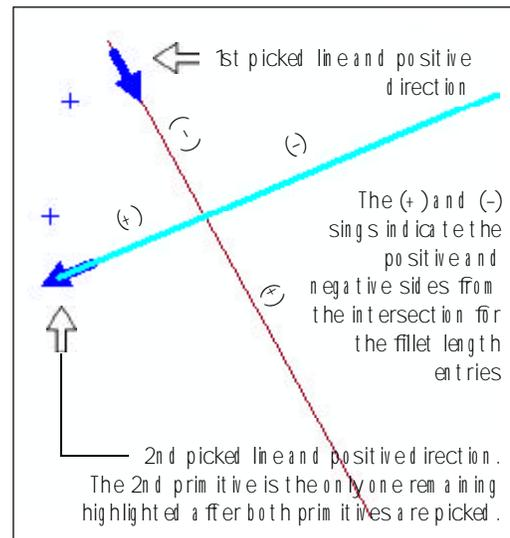
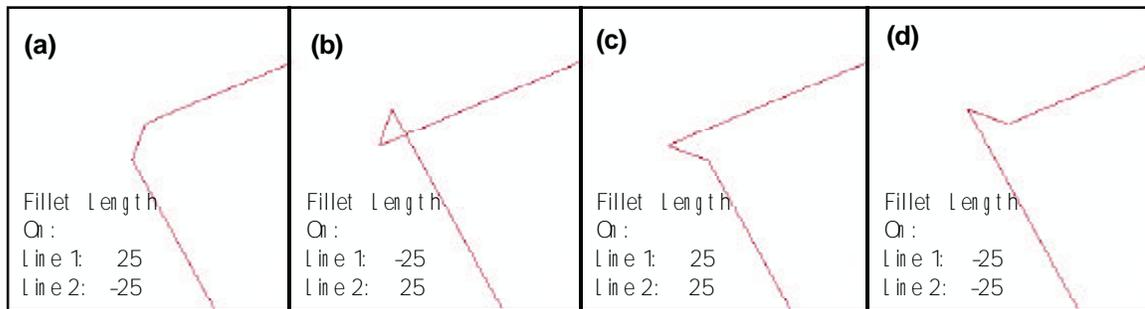

Figure 12
Figure 13 Fillets And Trimming As A Result Of Fillet Length Input
Shown in Figure 12 are two line primitives to be selected for intersection. Note the following:
**To introduce a line fillet**, we must enter the fillet length (the distance from the intersection to the fillet's endpoint on a primitive) for each of the two selected primitives. A fillet length may be positive or negative, depending upon which intersection quadrant the fillet is desired to be located. Reference is made to the plus and minus signs in parentheses in Figure 12.
Shown in Figures 13(a) through 13(d) are the resultant fillets and trimming of the primitives (if trimming is requested) as a result of positive and negative fillet length entries for the primitives of Figure 12. Regarding the trimming of the primitives, note that it is their longest portion that has been kept.
**To introduce an arc fillet** for the conditions of the example of Figure 12, we must enter the radius of the fillet (say 50), rather than two fillet lengths, which should be entered as zero (0). *Note that*